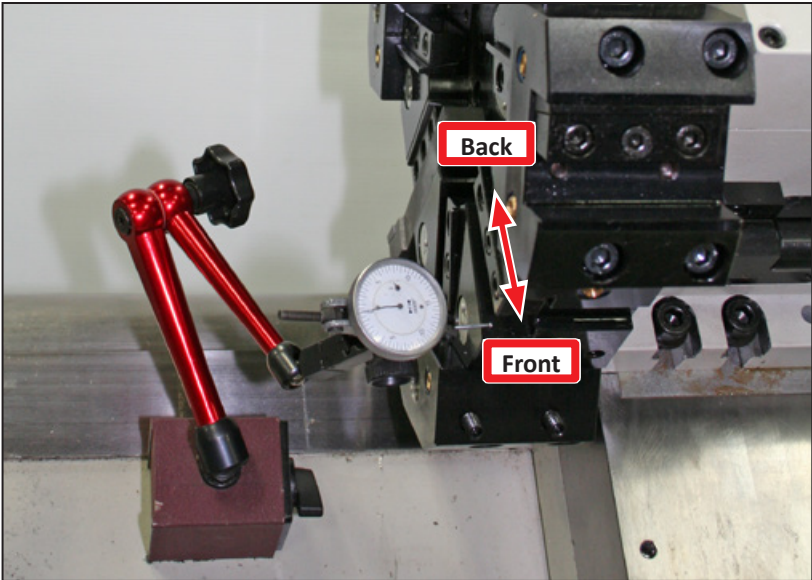

Figure 26
- 2. Use a dial indicator, mounted on the Z-axis way, to make sure that the cutting position tool pocket (i.e., pocket slated for tool insertion) is level to the X-axis (see **Figure 26**):